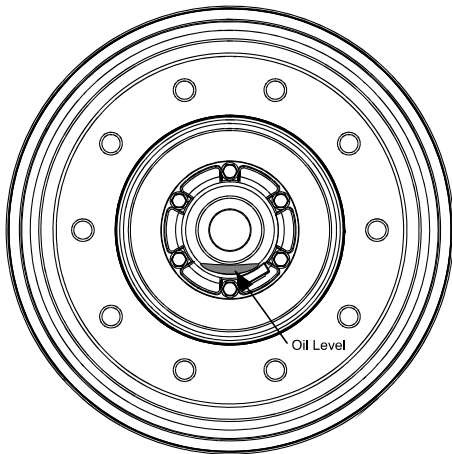

Figure 19 - Wheel Bearing Oil Level
17. Check oil level through the hubcap window. (Figure 19). If level is below the “add” level line, then fill with recommended oil until “full” level is achieved. Add oil slowly since the heavy weight oil will settle slowly in the hub. (Note: The hubcap window can only be cleaned with mild soap and water. Aromatic solvents should not be used, as they will impair the transparency of the window.)